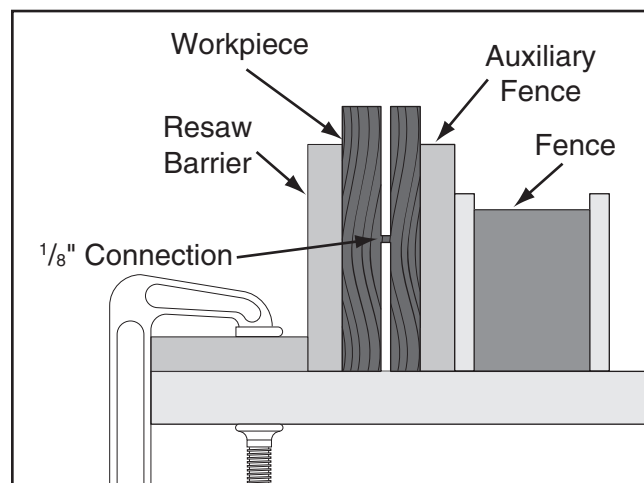

Figure 74. Ideal completed resaw cut.
7. Raise blade approximately 1 inch, or close to half the height of workpiece (see **Figure 74**), whichever is less.
10. Repeat **Steps 7–9** until blade is close to half the height of board to be resawn. The ideal completed resaw cut will leave a 1/8" connection when resawing is complete as shown in **Figure 74** on **Page 48**. Leaving a 1/8" connection will reduce risk of kickback.